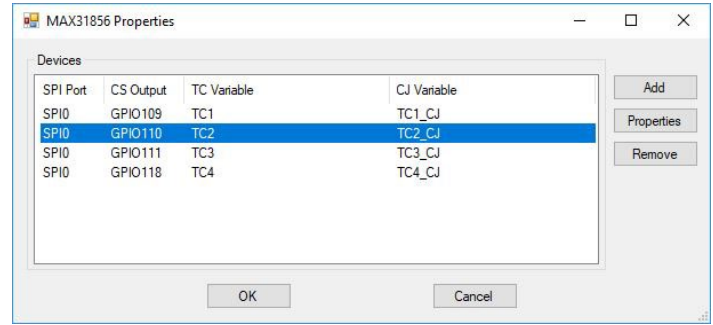

Figure 2-3 - MAX31856 Properties Window
6. Each of the four channels are listed (TC1-TC4 variables). Refer to Figure 2-3. To change the Thermocouple type, select one of the channels and click the **PROPERTIES** button to the right in the MAX31856 window.